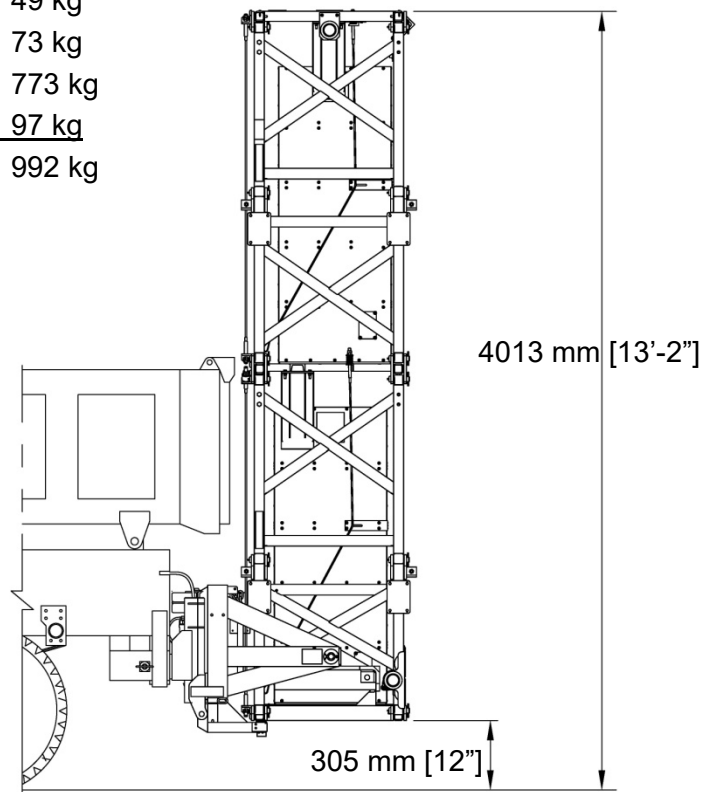

Figure 37
2. Dimensions (Figures 37 & 38)